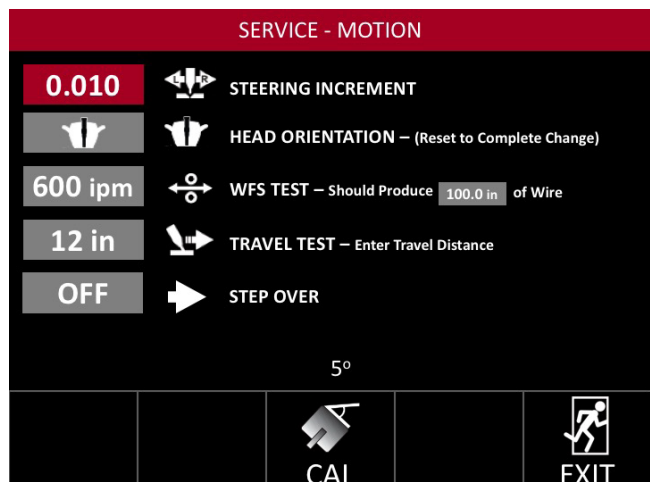
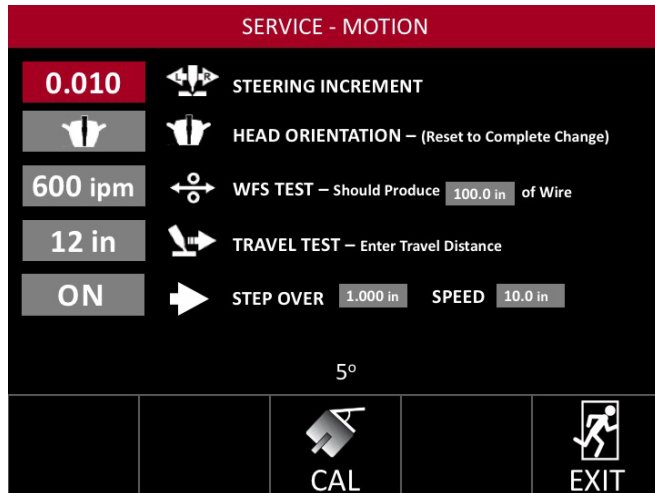

FIGURE 33 - Service Screen Motion
FIGURE 34 - Service Screen Step Over
Allows the user to select certain motions and behaviors of the weld system, see **FIGURE 33 - Service Screen Motion** for available options.
- **Step Over** - When turned ON, the steering knob will control the travel motor rather than the oscillator position. The distance travelled (in) and the speed of the travel (in/min) for each steering knob click are selectable by the user – see **Figure 34 – Service Screen Step Over**, page A-39.
When an inclinometer is available in the weld head and the Outside Track Ring is selected on the Track /Setup screen, the CAL selection button icon is displayed at the bottom of the Motion Controls screen and the current weld head position is displayed directly above the icon, see **FIGURE 33 - Service Screen Motion** on page A-38 and **FIGURE 34 - Service Screen Step Over**. Pressing the CAL selection button will calibrate the weld head inclinometer. A warning is given prior to the calibration indicating that the calibration process requires the weld head to travel completely around the pipe – any obstructions should be removed.